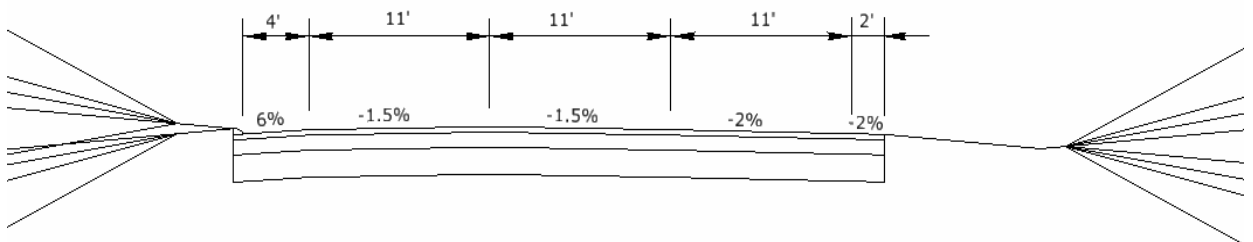

Figure 6-19 Typical Section for CT_Rdwy2
N. Use the tools above to create a template. Create another template in your Project Library Typical Sections folder called **CT_RDWY2**. The left side of the road will be one lane using BCPC and the right will be two lanes with no curbing. Use the detail below in Figure 6-19 as a guide. Notice the two (2) foot shoulder and two percent (2%) cross slope.